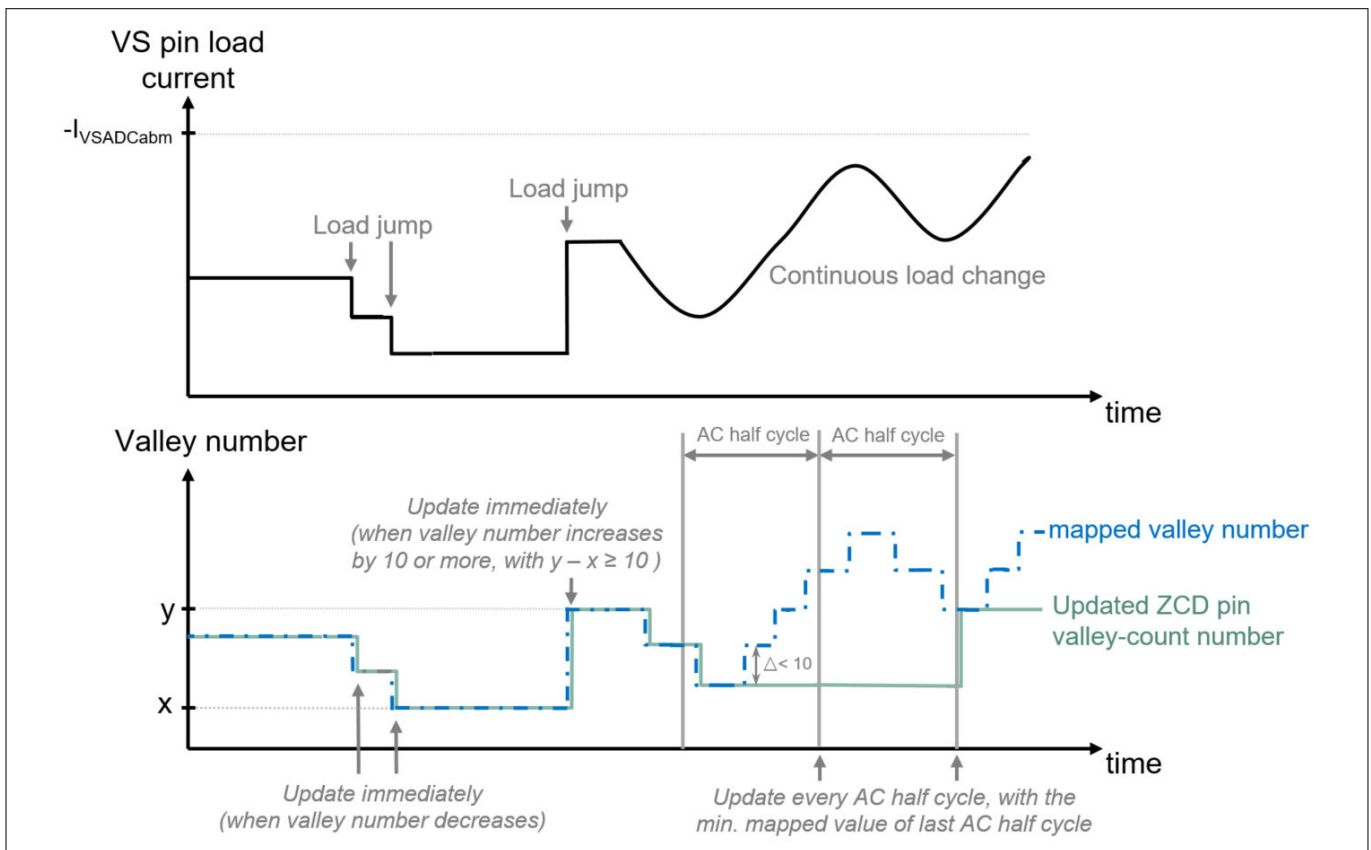

Figure 17 Illustrative example of the QRM valley selection hysteresis mechanism
as shown in Figure 17. During each AC half cycle, the controller adjusts the on-time to stay in the selected valley number. In this way, the number of valley jumps is limited to a minimum.
- When a load jump happens, if the valley number has to be decreased, it happens immediately. For the case of valley number increase, if the load jump results to a valley number increase by 10 or more, it happens immediately. Otherwise, the change happens only at the start of the next AC half cycle, as shown in Figure 17.